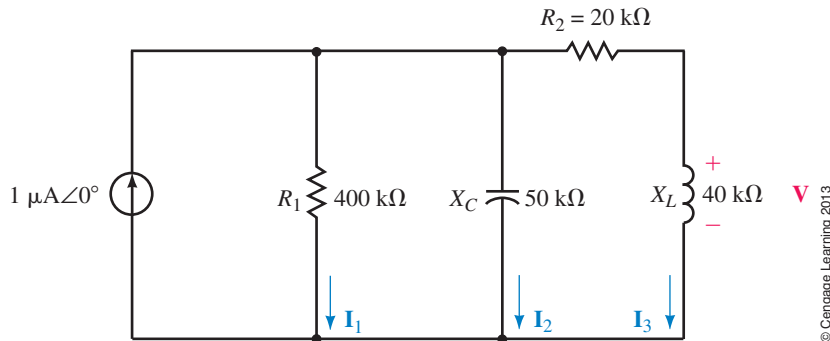

FIGURE 18–118
50. Refer to the circuit of Figure 18–118: